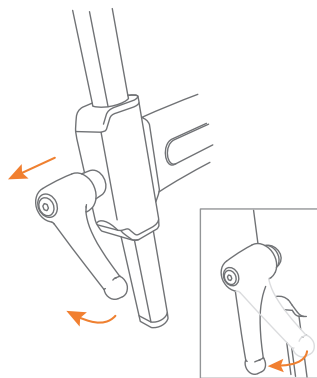

Figure 27: Set the adjustment handle in the right position.
- g. Place the adjustment handles vertically so that they point straight down. Gently pull the adjustment handle outwards and turn it to the correct position (**Figure 27**).